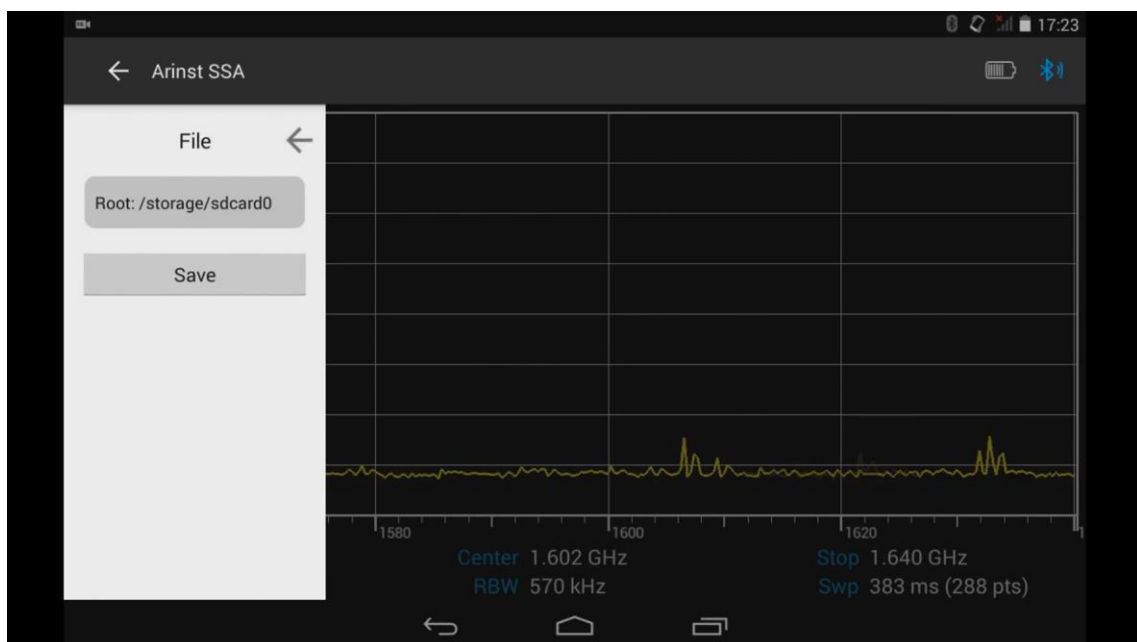

Figure 64 – Menu of loading and saving data
8.11.1. From the main menu of the control program, enter the menu to load and save data **File**. As shown in figure 64. In the **File** menu, you can save files (**Save**) with data, frequency bands, etc., to download frequency bands and data from the memory card of your tablet/smartphone